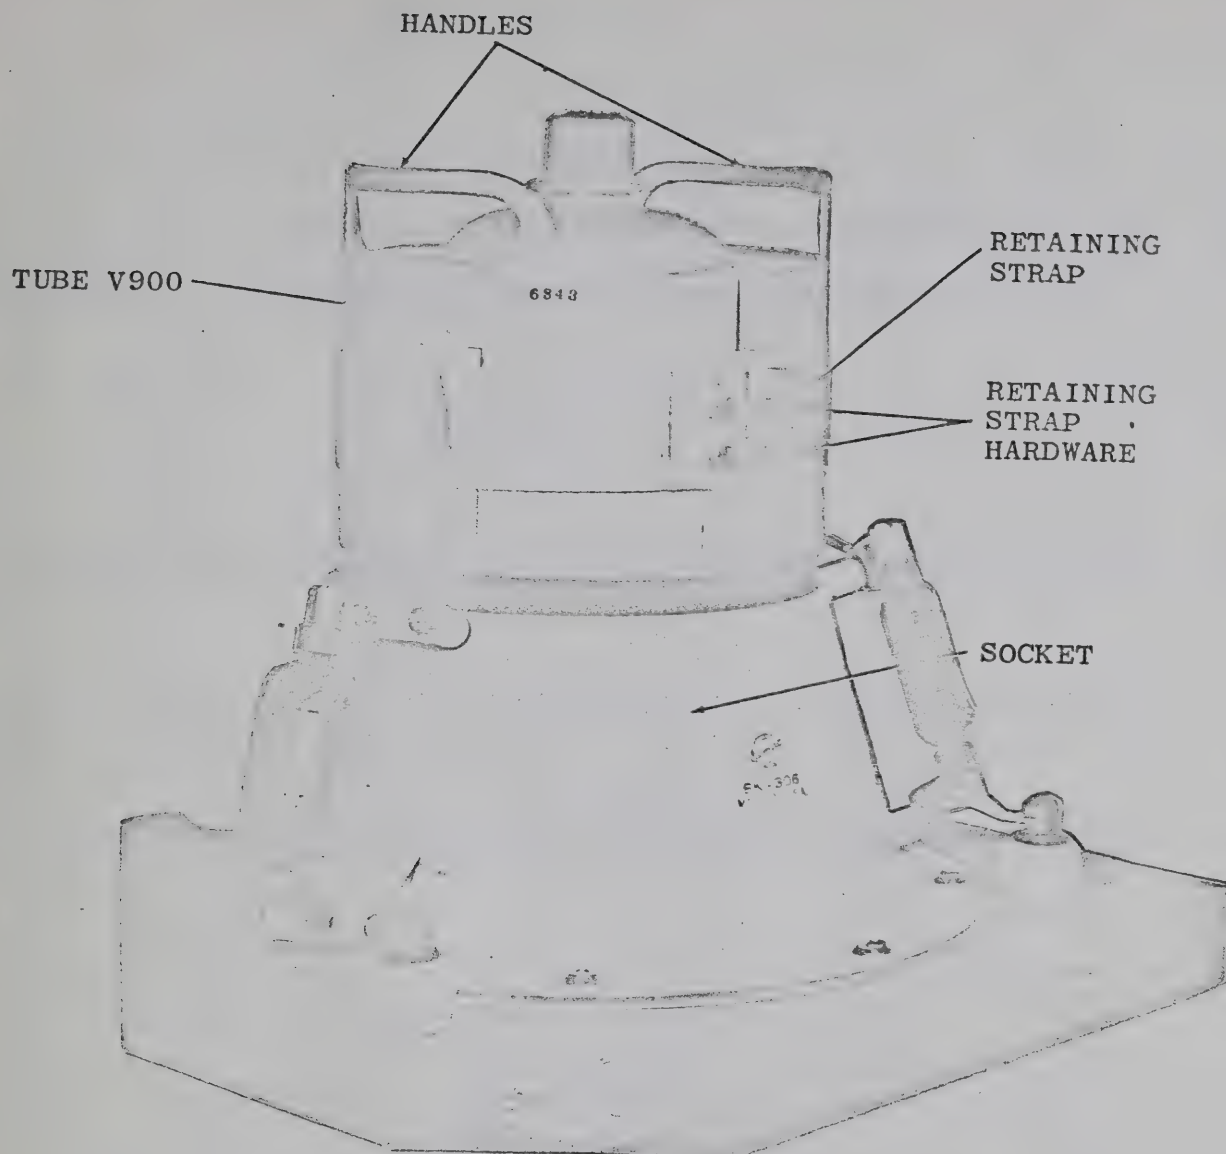

Figure 4-5. Upper Compartment of the Main Frame, Rear View
- a. Loosen hardware on retaining strap (figure 4-5).